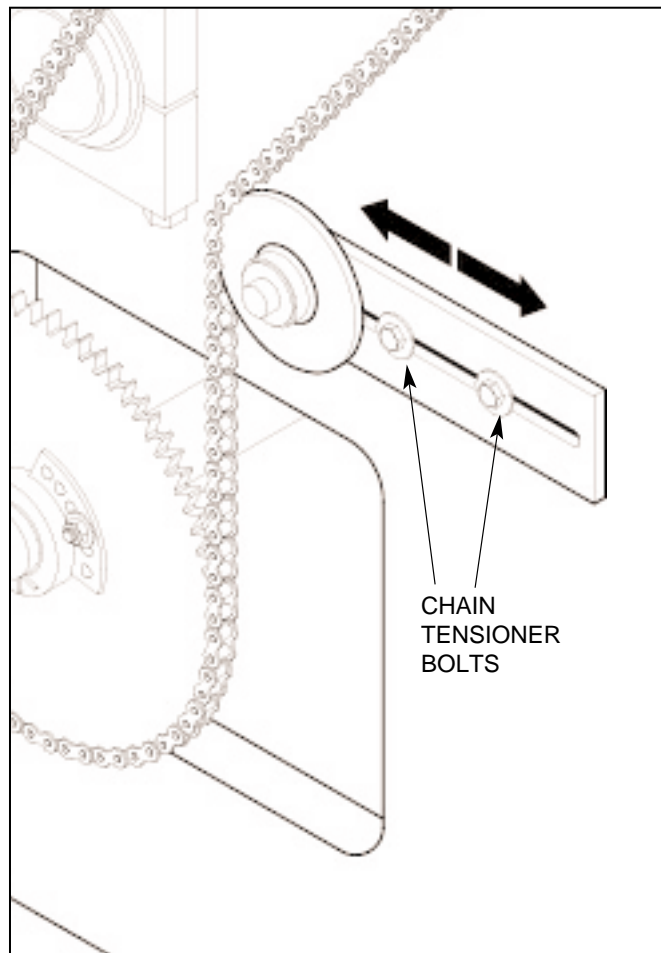

Figure 4.29 LOOSENING CHAIN TENSIONER
4.2.20 Loosen the pallet feeder drive chain tensioner by unscrewing the bolts and loosening the tensioner. Disconnect the drive chain and remove from the feeder sprocket (see figure 4.29).
- 4.2.25 Reconnect the pallet feeder drive chain (change number of links if necessary) and adjust the chain tensioner assembly (see figure 4.29).